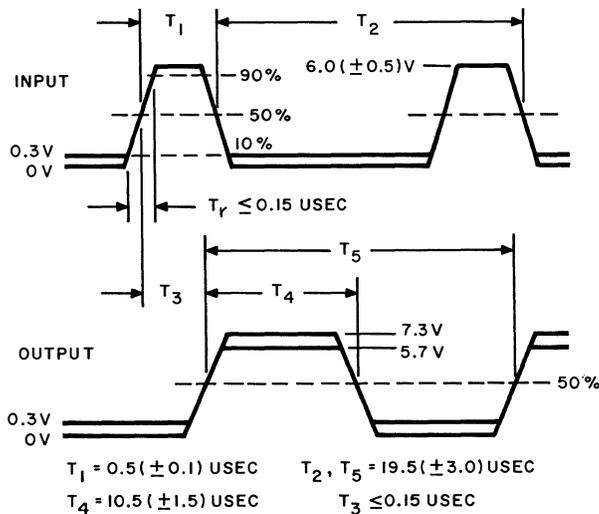

Fig. 32 — Monopulser Card Test
- (2) Set the NORMAL-DEGRADED selector to NORMAL.
- (3) Adjust potentiometer P1 until the voltage between J1 and ground measures  $+6.0$  ( $\pm 0.2$ ) volts dc with the voltmeter.
- (4) The input test pulse on J8 should be as specified in Fig. 32.
- (5) Rotate the INPUT selector through positions 1 to 6. The output pulse on J3 should be as specified in Fig. 32 at each position.
- (6) With the TEST FUNCTION selector in position 2, repeat as in (5).